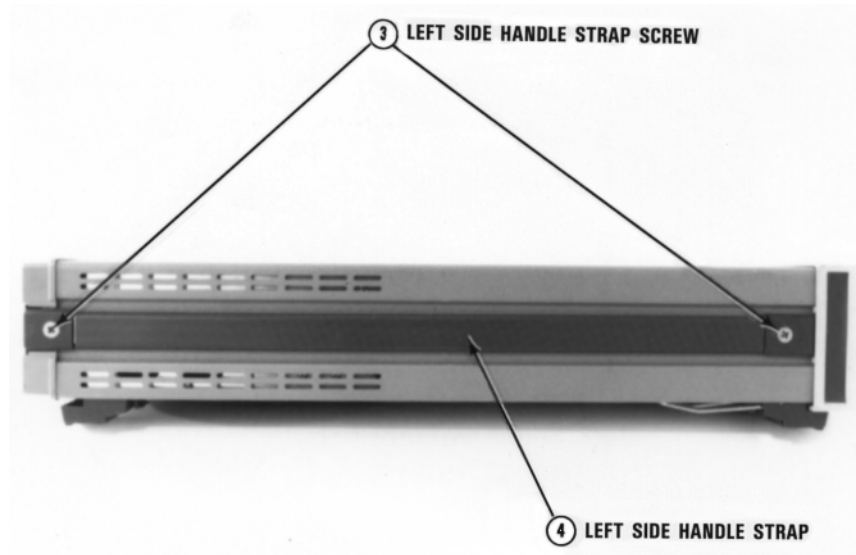

Figure C-2 3458A left side
- 5 Refer to **Figure C-2**. Turn the instrument so its left side faces you.
- 8 Refer to Figure C-2. Reinstall the left side handle strap. Use the #1 Pozidriv to reinstall side handle strap screws.